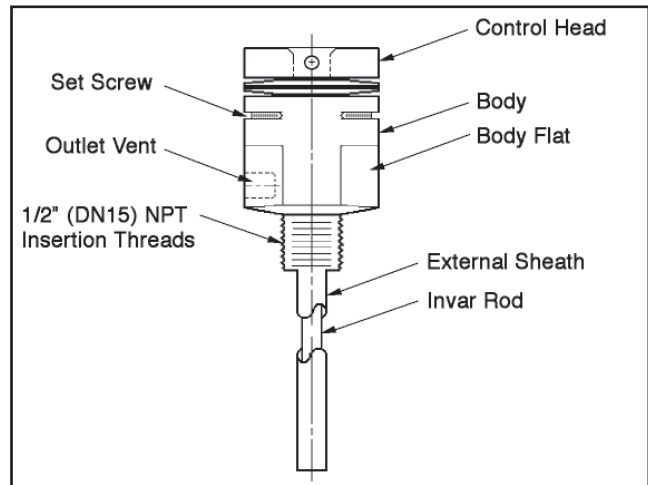

Figure 1
3. Apply a compatible sealant to the 1/2" (DN15) NPT threads and insert the Model 135 probe into the upstream pipe line requiring control. With a wrench, secure the flat surfaces on the body and rotate the probe clockwise (CW) until probe is tight. See Figure 1.